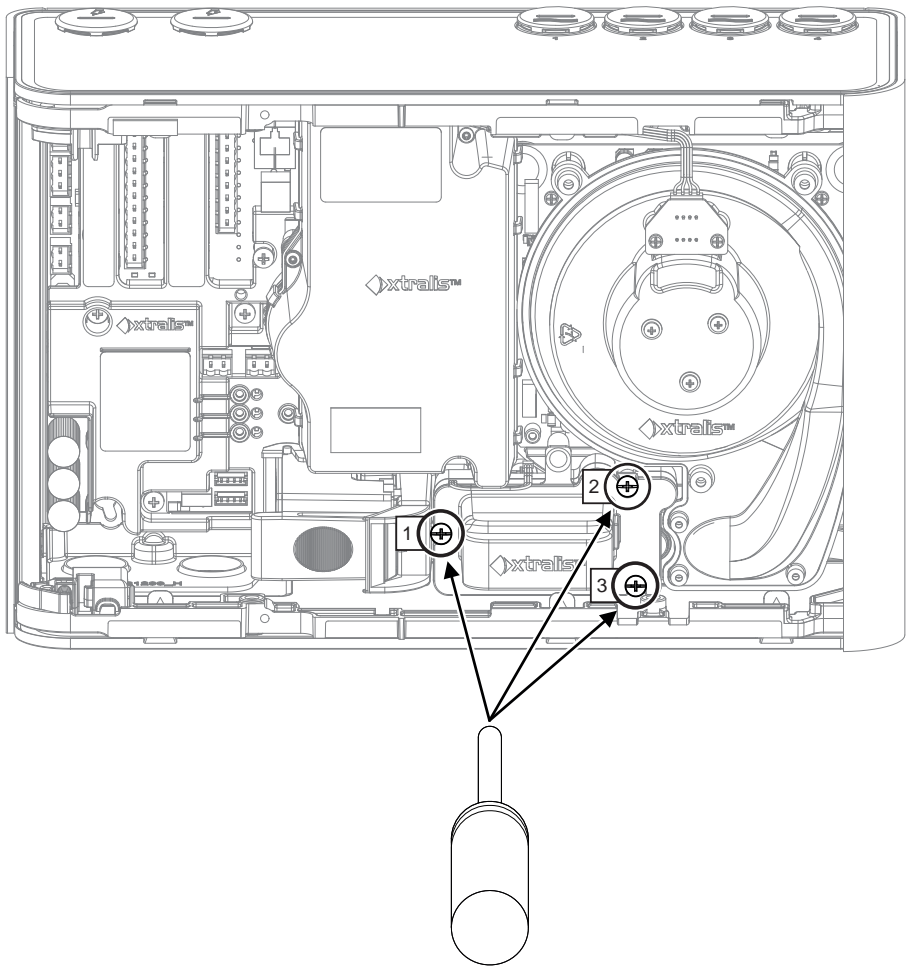

Figure 7-21: Undo Sampling Module screws
5. Undo the three screws holding the Sampling Module (Figure 7-21).